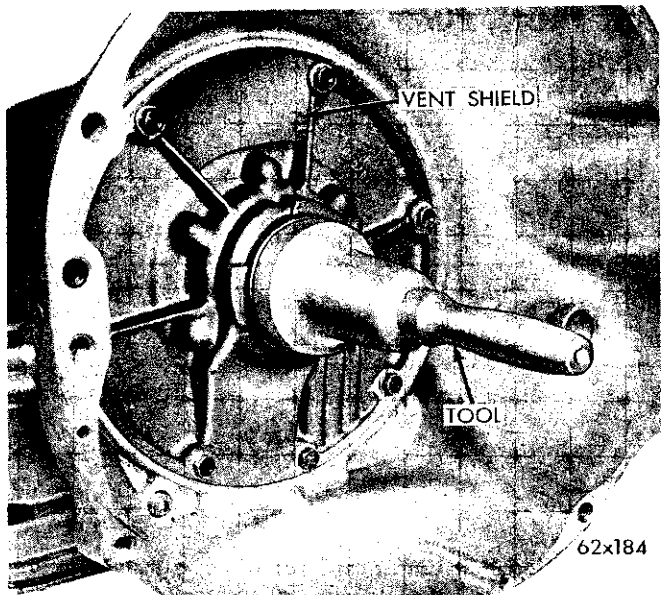

Fig. 50—Installing Front Pump Oil Seal
(2) To install a new seal, place the seal in the opening of the pump housing (lip side facing inward). Using Tool C-3860, drive the seal into the housing until the tool bottoms (Fig. 50).